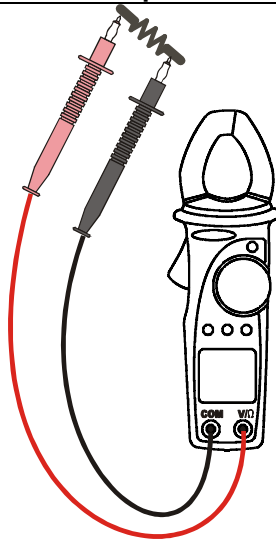

Fig. 7: Use of clamp for resistance measures.
2. Insert the test leads into the jacks. The red lead into "+" jack, and black lead into COM jack, as shown in Fig. 7.
4. Press R-H key you can select manually the measurement ranges in cyclic order. Press R-H key 2 seconds to return to the AUTOMATIC range selection.